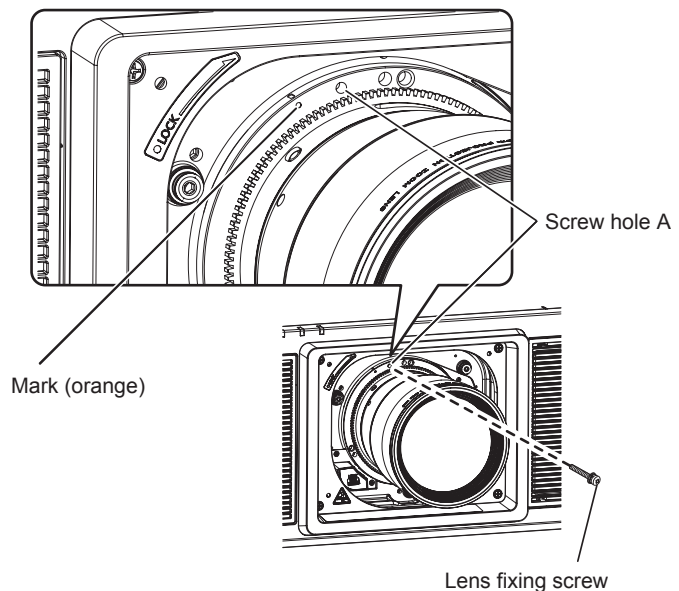

Fig. 4
- 4) Secure the projection lens with the supplied lens fixing screw. (Fig. 4)